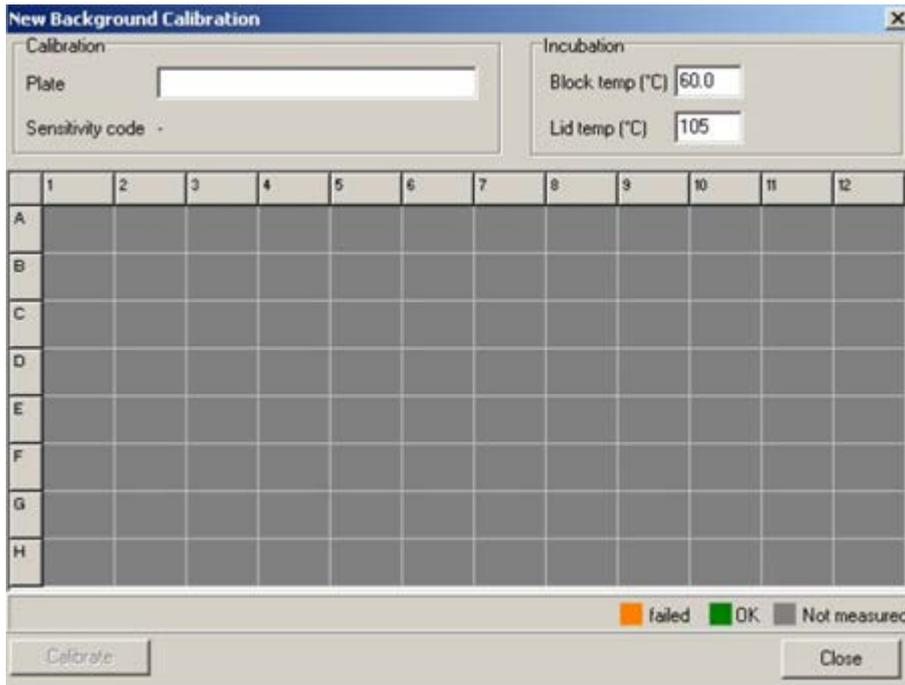

Figure 2. New Background Calibration dialog box.
1. **Before setting up an experiment, it is necessary to perform background calibration using an empty, capped A plate. Click on Setup, then Background Calibration. A list of previously performed calibrations will appear. Click New... to open the following dialog box (Figure 2)**